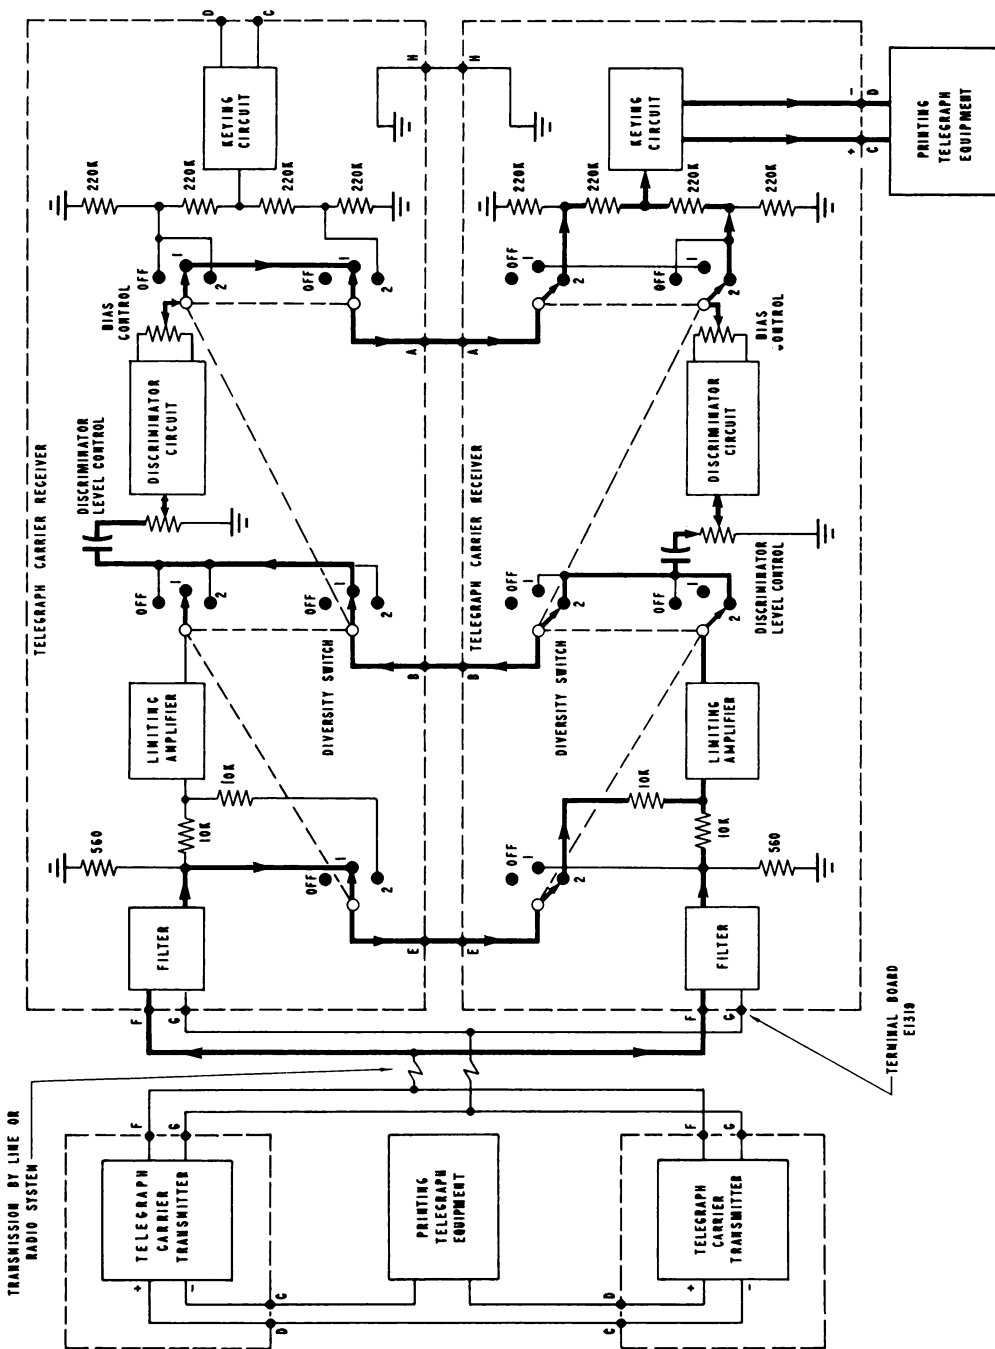

Figure 2-9. Block Diagram of Telegraph Carrier Receivers in Frequency Diversity
b. DIVERSITY. - The telegraph carrier receivers are designed to be used in frequency diversity on either line or radio transmission systems. The block diagrams of figure 2-9 show the arrangement of components when two receivers are placed in diversity. As shown by the diagram the two carrier signals, which are spaced apart in frequency but keyed with the same intelligence, are applied to the grid of a common limiting amplifier and the output of this amplifier is applied to the discriminator circuits of both channels. The DC output of the discriminator circuits are combined to control the common keying and loop circuit. During a fade of radio signal the stronger carrier signal captures the limiting amplifier and controls the keying of the output loop circuit. When the input carrier signals are equal the limiting amplifier output contains both carrier signals which are rectified and combined at the input to the keying circuit. To obtain balanced operation between channel, the signal level of each channel without signal in the other channel must be the same at the input grid of the keying circuit. This is accomplished by adjusting the DISCRIMINATOR LEVEL CONTROL and measuring the input at the grid of the keying circuit. The Wiring Harness CX-2449/FCC-3 provides the electrical connections between chassis for diversity operation. As shown in figure 2-9, when the DIVERSITY switch S1306 is in the OFF position, the receiver is connected for single channel operation. For diversity operation the switch of one channel is placed in position 1 and the switch of the other is placed in position 2. Under these switching conditions the output to control the loop circuit is taken from the channel with the DIVERSITY switch in position 2.
are combined by means of the 100,000 ohm resistors R1317 and R1319 and the 100,000 ohm BIAS CONTROL potentiometer which permits the telegraph bias to be set by varying the operating point. Additional filtering is provided by the 0.02 mf capacitor C1309. With the DIVERSITY switch S1306 in the OFF position, the telegraph signal is applied to the combining network consisting of the 220,000 ohm resistors R1320, R1321, R1323, and R1324. This network is inactive except when two receivers are connected in diversity, in which case the telegraph signal from the second channel is applied to the junction of R1323 and R1324 and the combined output occurs across the 0.006 mf filter capacitor C1310. As shown in figure 2-9, the two channels in diversity have a common point at the input to the limiting amplifier, at the input to the discriminator circuits, and at the input to the DC amplifier and inverter circuits.